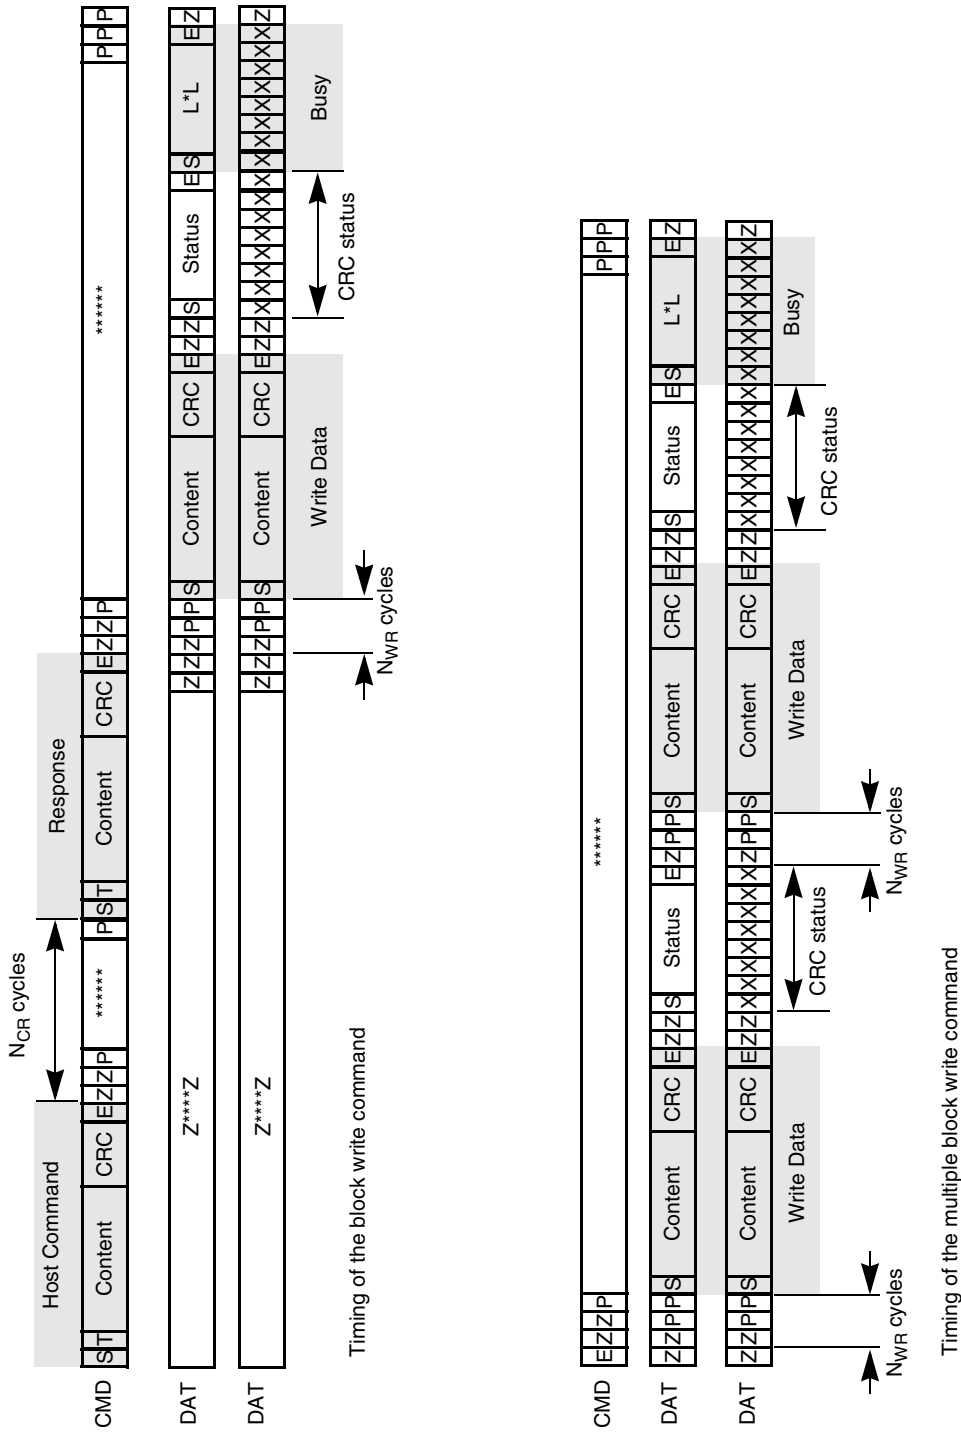

Figure 51. Timing Diagrams at Data Write
Figure 51 shows the basic write operation timing. As with the read operation, after the card response, the data transfer starts after  $N_{WR}$  cycles. The data is suffixed with CRC check bits to allow the card to check for transmission errors. The card sends back the CRC check result as a CC status token on the data line. If there was a transmission error, the card sends a negative CRC status (101); otherwise, a positive CRC status (010) is returned. The card expects a continuous flow of data blocks if it is configured to multiple block mode, with the flow terminated by a stop transmission command.